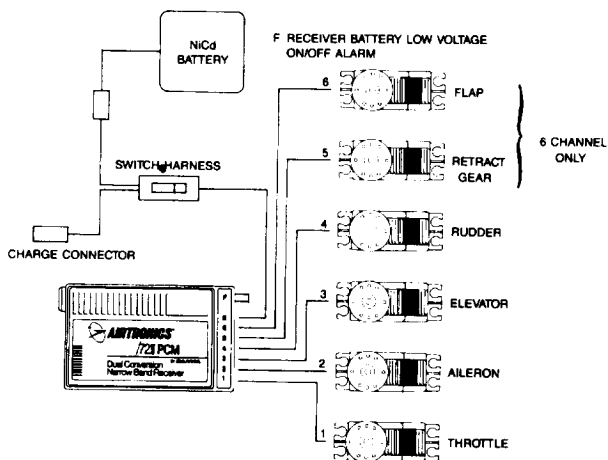
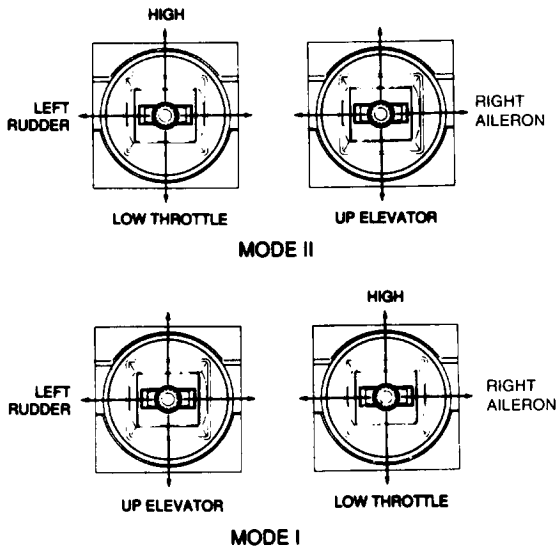

FIGURE 2
FIGURE 4
6. Figure 2 shows how to connect the components of your system together. Note the servo and switch harness plugs are inserted in the receiver so that pin #3 is towards the bottom of the receiver. At this point, your objective is to get the system operating on your workbench. Once connected, you must then refer to the corresponding diagram for your system (Figure 4), showing the transmitter control sticks' function. A special switch harness is supplied with the VANGUARD PCM unit that should only be used with the PCM system. It applies "Keep Alive" voltage to the memory circuit in the receiver even in the "OFF" position. Therefore, it should only be inserted into the Battery "B" receptacle of the receiver.